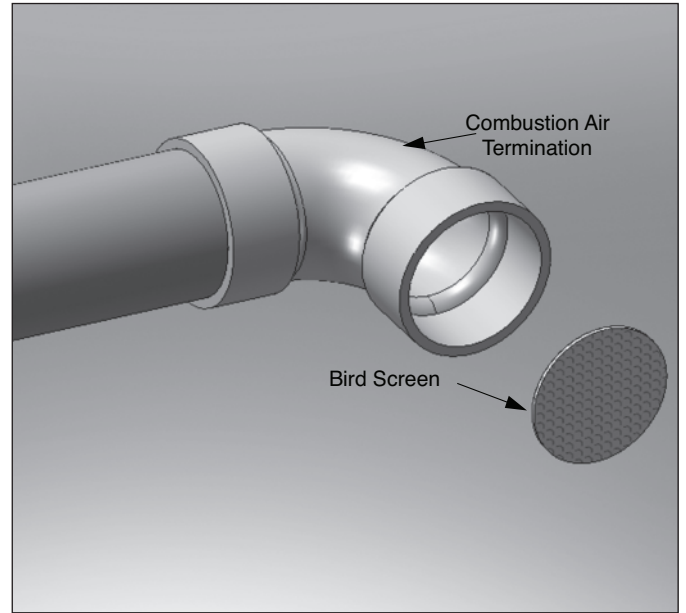

Fig. 19: Horizontal Combustion Air Bird Screen Installation with 90° Elbow Termination
1. The vent and combustion air terminations must include a factory supplied “bird screen” installed as shown in Fig. 4 page 10 & Fig. 19 page 17.